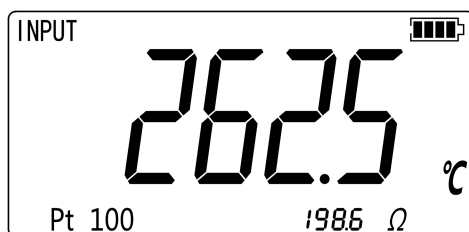

Figure 4.2-1
2. Press for the RTD display. Then the screen will display as shown in Figure 4.2-1. If desired, continue pressing this key to select the desired RTD type.